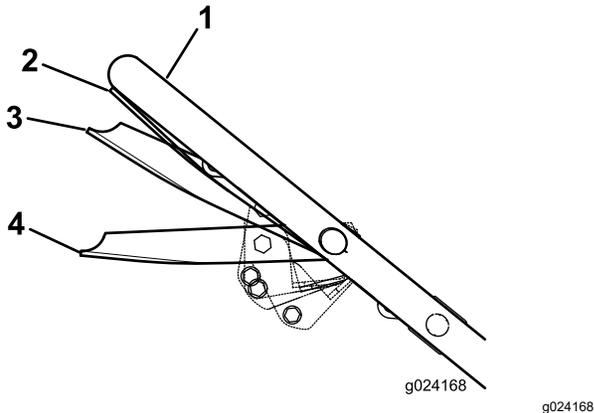

Figure 15
3. Pull the blade-control bar to the handle to the RUN/DRIVE position (Figure 15).
the RUN/SHIFT position (Figure 15) whenever you change the ground speed.